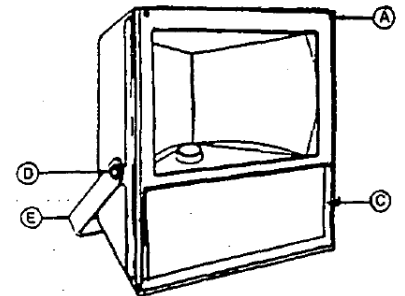

FIGURE 1
1. Loosen captive screws (A). Swing door frame (C) away. See Figure 1.
3. Close door frame (C). Tighten screw (A).